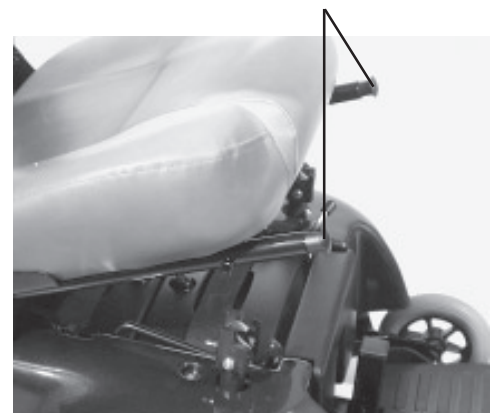

Figure 7. Remove the Seat
2. Push in the black spring-loaded seat frame latch release buttons (one on the front of each seat frame side tube). See figure 7.